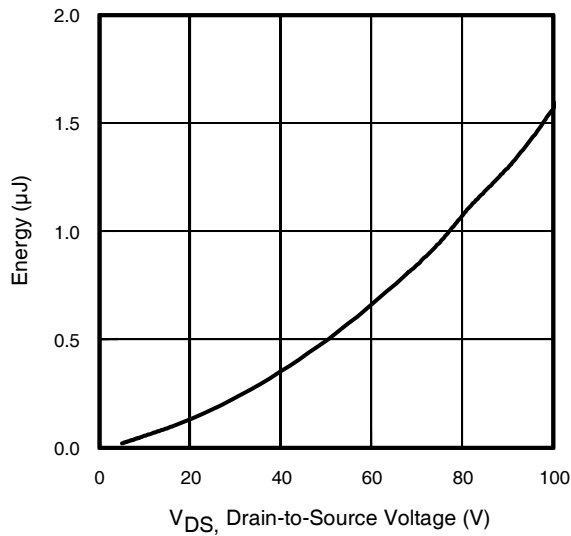

Fig 11. Typical C_{OSS} Stored Energy
| C _{oss} eff. (ER) | Effective Output Capacitance (Energy Related) | — | 330 | — | | V _{GS} = 0V, V _{DS} = 0V to 80V ⑥, See Fig.11 |